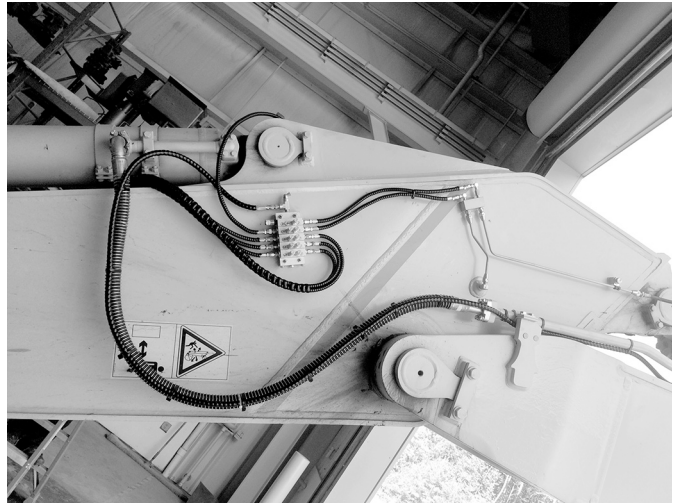
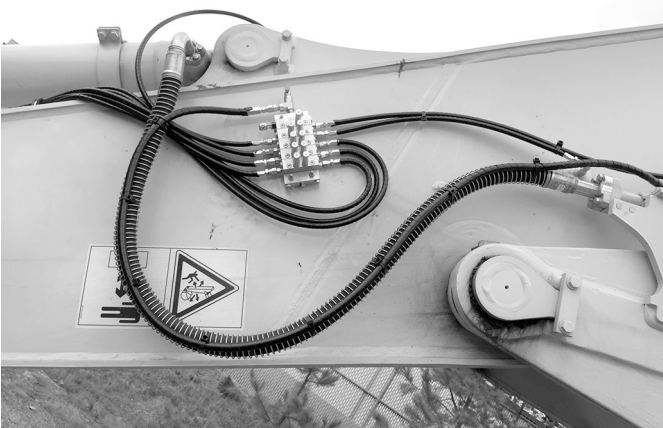

FIG. 16: PC360-11/PC390-11/PC490-11 Models
FIG. 15: PC210-11/PC240-11/PC290-11 Models
3. Install Arm and Bucket Valve to the equipment using bolts included in the kit (FIG. 15 - FIG. 16).